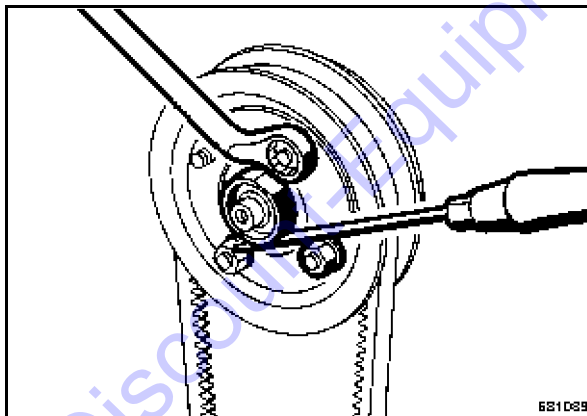

Fig. 49
- Block the V-belt pulley with a screwdriver (Fig. 49).